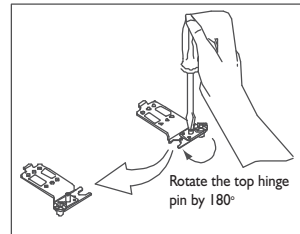

Fig. 5
5. Unscrew the screw fastening the top hinge pin. Turn the pin by 180° and then fix it, screwing it on the left side of the top hinge. (Fig. 5)